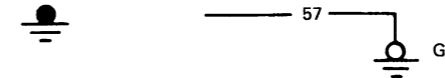

Fig. 1 – Ground Symbols
- Ground symbols are shown in Figure 1. A ground wire connected away from the component is identified by a code G1 or G2, etc. The location of the remote ground is listed in the GROUND CODES chart and the bottom of the page.